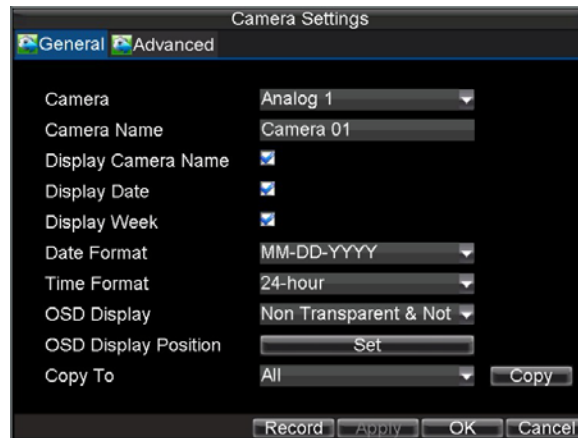

Figure 1. OSD Settings Menu
1. Click Menu > Settings > Camera to enter the Camera Settings menu, shown in Figure 1.
3. Configure desired OSD settings, as shown in Figure 1.